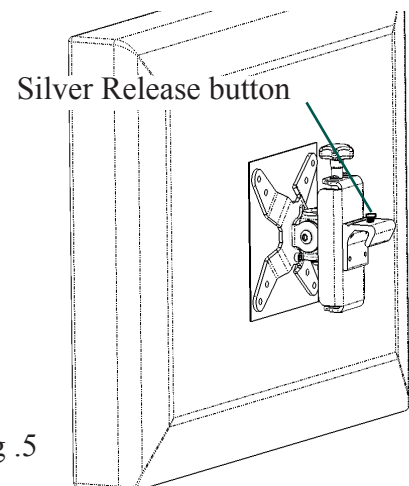

Fig .5
4) Attach quick release pivots to back of each monitor using Phillips head screws provided. Be sure that the silver release button is positioned toward the top of the monitor. (as shown in Fig.5).